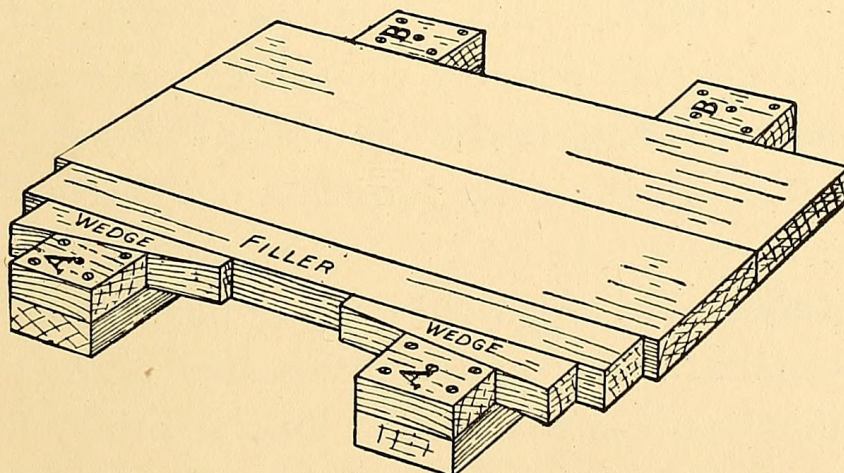

FIG. 42.— Home-made Clamps for Holding Glued-up Work.
**Home-made Clamps** of different lengths similar to those shown in Fig. 42. These consist of two strips with two blocks of wood *A* and *B* screwed to them 4 or 5 inches farther apart than the width of the glued-up piece